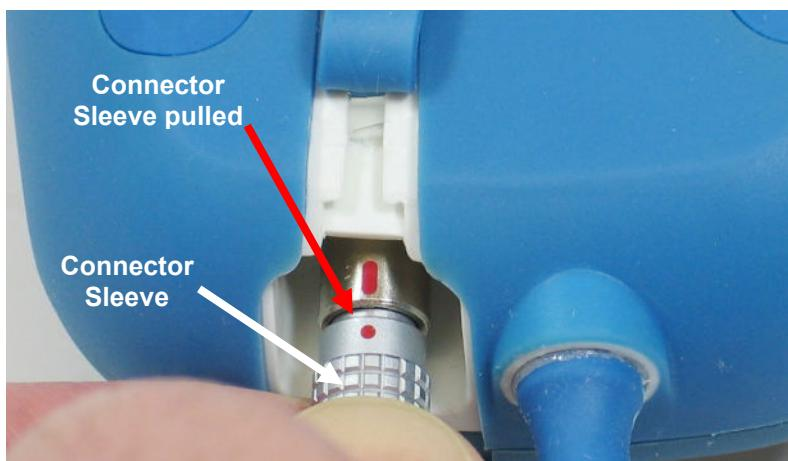

Figure 11: Close-up of the Connector Sleeve
1. Hold and pull back on the metal sleeve of the DC output connector to disconnect the connector from your Guardio Charger. **See Figure 11.**